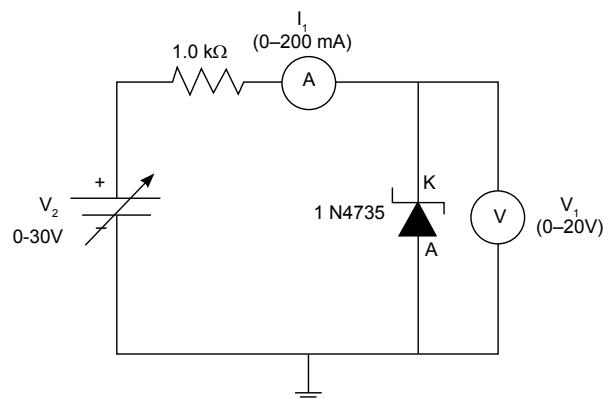

Fig. P16.2: zener diode in reverse bias
8. Connect the circuit as shown in Fig. P16.2.